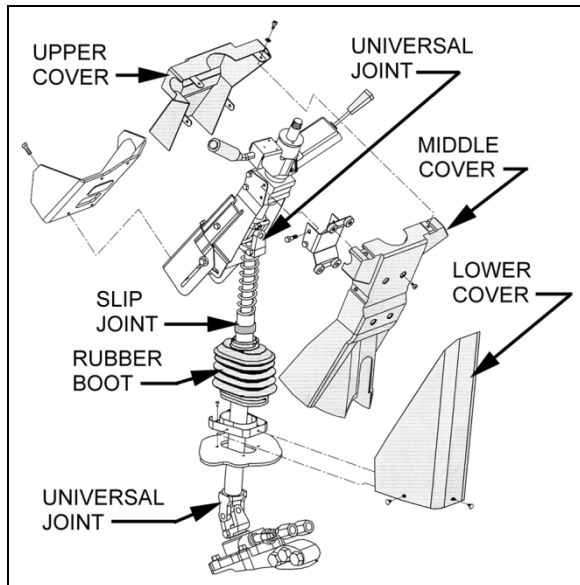

FIGURE 8: STEERING COLUMN COVERS
1. From the front driver's compartment area, remove the three plastic fasteners on steering column lower cover. Remove the lower cover (Figure 8).
2. Remove the 2 clockspring mounting screws and then remove the clockspring. You will have to disconnect the clockspring harness connector located lower along the steering wheel column. If necessary, remove the steering column covers (Figure 8).